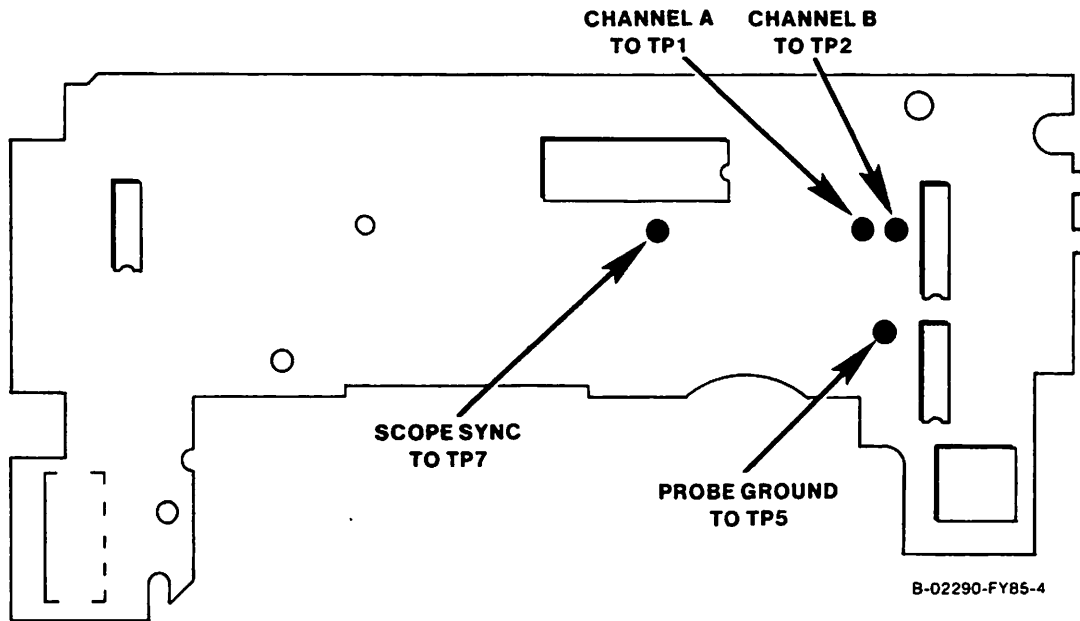

Figure J-1. Half Height Floppy PCA Test Point Locations
1) Set up the oscilloscope as follows (figure J-1):